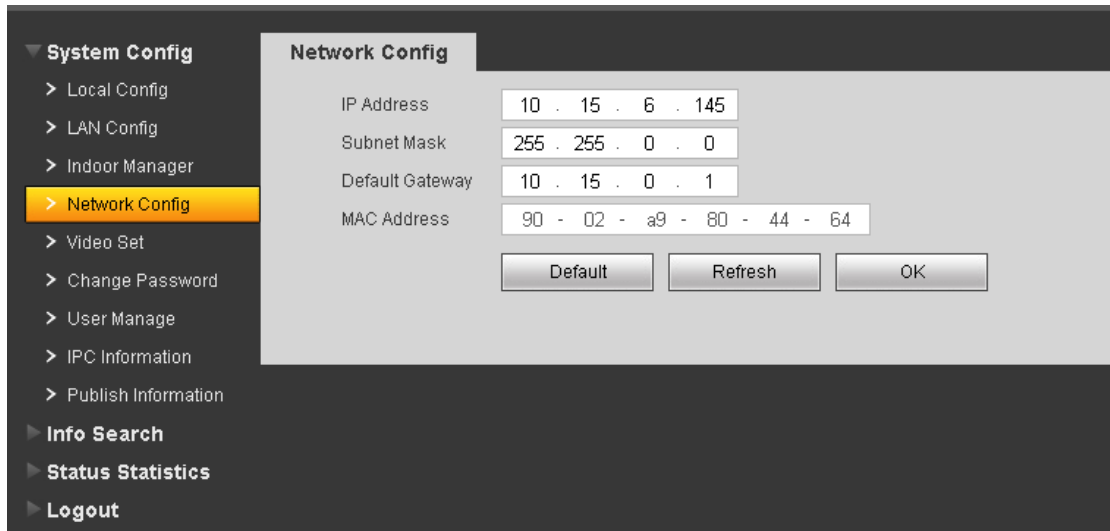

Figure 3- 5
- b) Set VTO IP address, subnet mask and default gateway. After you are done, WEB page will reboot and go to the new set page. See Figure 3- 5.